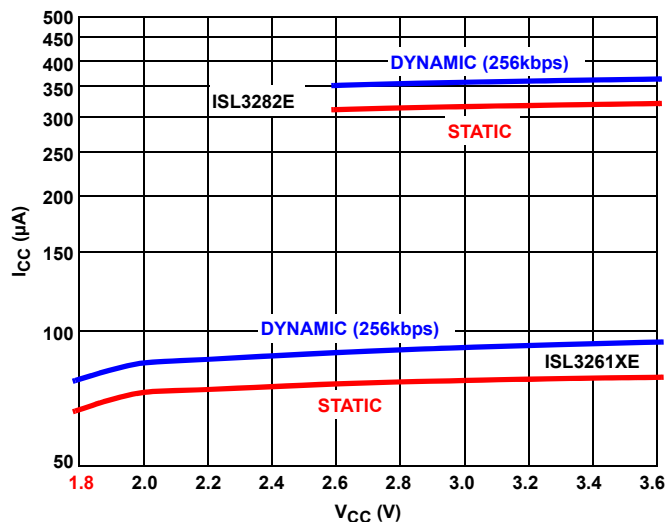

FIGURE 1. ISL3261XE REDUCES OPERATING ICC BY A FACTOR OF 4 FROM PREVIOUS GENERATION RECEIVER ICs, AND OPERATES WITH SUPPLY VOLTAGES AS LOW AS 1.8V
The ISL32610E, ISL32611E, ISL32612E are ±16.5kV IEC61000 ESD protected, fractional unit load (UL), 1.8V powered, single differential receivers (Rx) for balanced (e.g., RS-485) data communication. With their 85µA supply currents, these receivers are optimized for low power applications, and deliver the lowest supply currents of any available single Rx IC (see Figure 1).